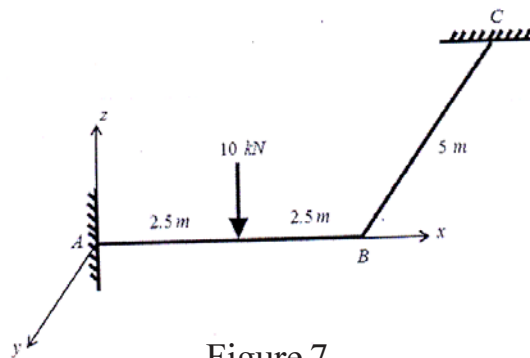

Figure 7
**Q6)** Analyze the grid structure ABC as shown in Figure 7 using stiffness matrix method. Take  $EI=2 \times 10^5 \text{ kN.m}^2$  and  $GJ= 1.2 \times 10^5 \text{ kN.m}^2$ . [16]